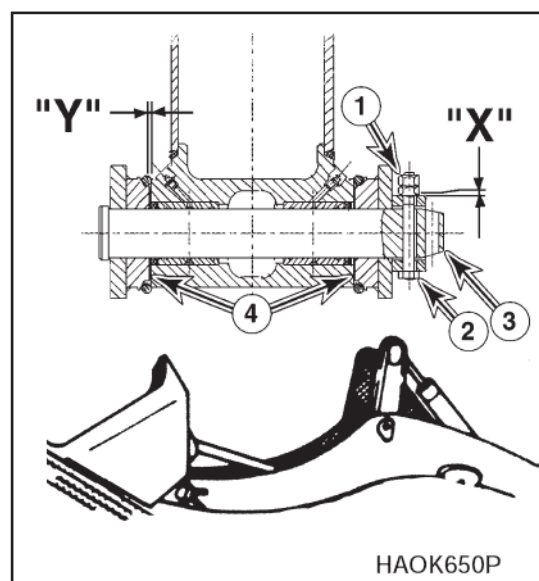

Fig.11
2. After the O-ring seal is installed, you should push the bucket to one side to check the gap between the other side of the bucket and bucket link. The total gap between the bucket internal lug and the bush end face (Y, Fig.11) shall be 1MM. If the fit is too tight (less than 1 MM), it will aggravate the wear, and if the fit is too loose, it will generate too much noise and the action will be slack.
4. When it is needed to adjust, you should remove the back cap (1, Fig.11) and bolt (2) from the pin (3) , remove or add shim (4) . The same quantity of shims shall be used on both sides. Install bolt (2) and nut (1). A gap of 1-2MM shall be retained between the nut and the bush at the point "X".